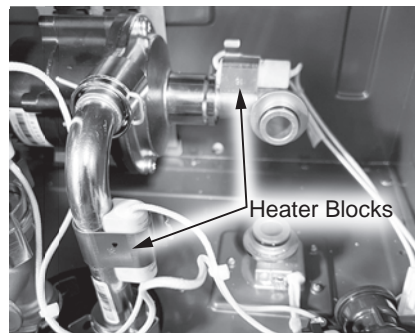

Figure 177 - Heater block locations
21 Locate the two heater blocks attached to the pump inlet elbow and the pump outlet tube as shown in Figure 177. Remove brackets (size 16) securing heater blocks to pipe connections. Place brackets aside in a safe place for reinstallation. Route heater blocks and wiring inside water heater cabinet for ease of access to water pump.
33 Locate the two (2) heater blocks and brackets (size 16) previously removed in **Step 21**. Secure heater blocks to pump inlet elbow and pump outlet tube as shown in Figure 177.